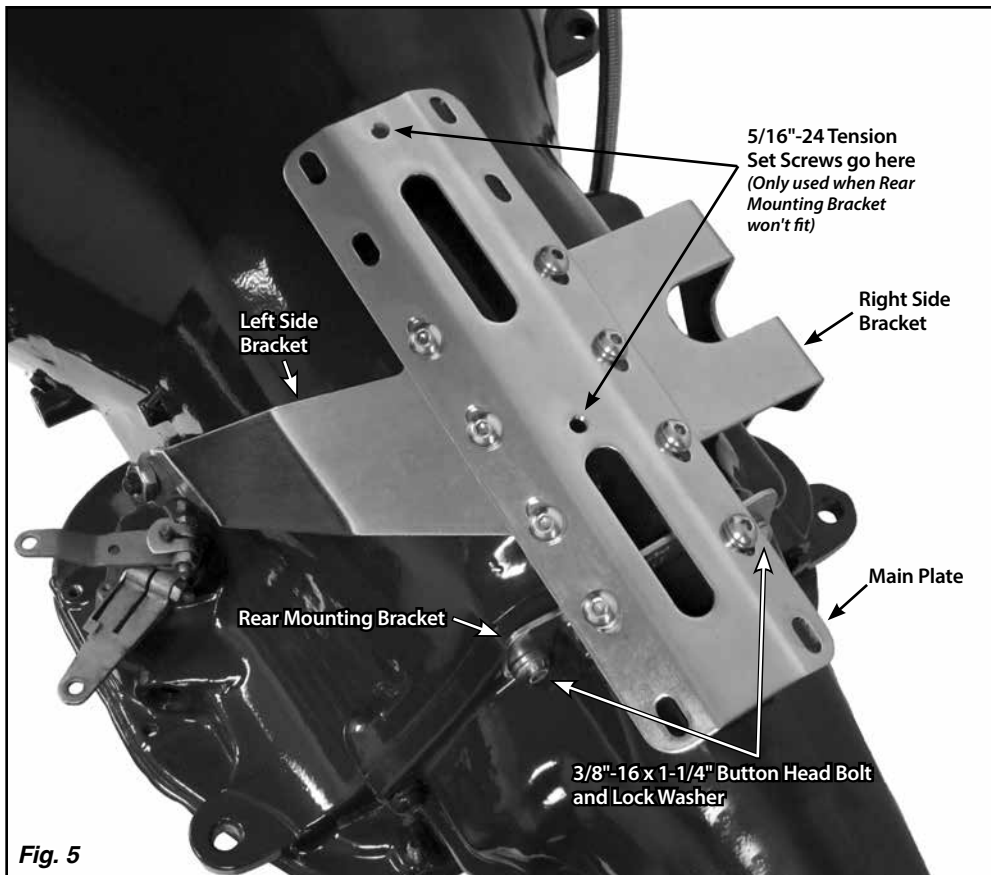

Fig. 5
Step 7: Tighten all of the bolts on the left side, right side, and rear (if applicable) mounting brackets. **Fig. 5**